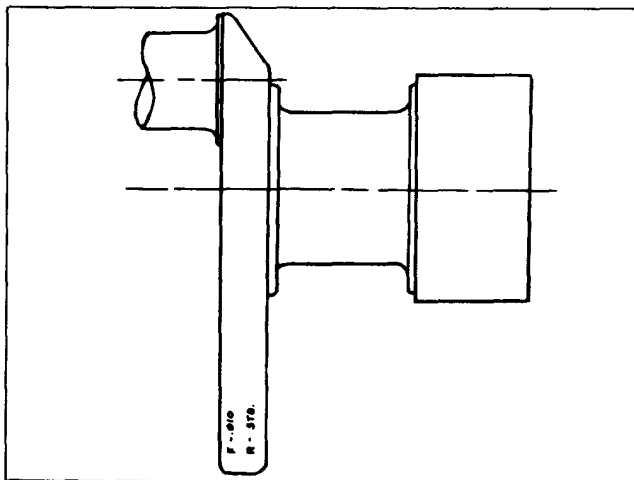

Fig. 1-7, (N101140). Oversize thrust bearing mark on crankshaft
3. The marking for undersize rod and main bearings should be on front counterweight, oversize thrust ring size on rear counterweight. Both thrust ring size and ring location must be included in stamping as shown in Fig. 1-7.